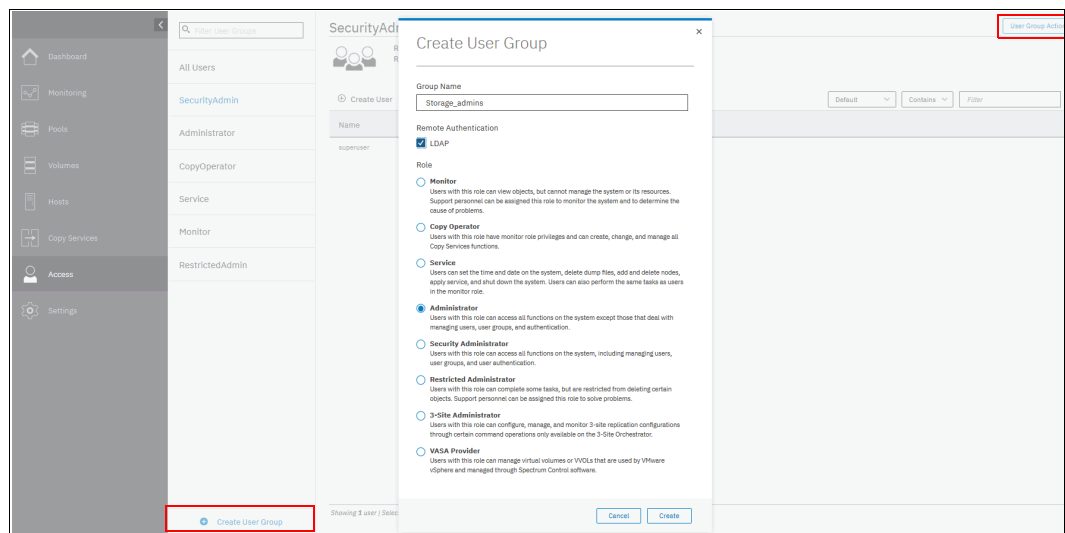

Figure 3-61 Creating a user group with remote authentication enabled
1. Select **Access** → **Users by Group** and click **Create User Group**. Enter the name for the new group, select the **LDAP** checkbox, and choose a role for the users in the group, as shown in Figure 3-61.